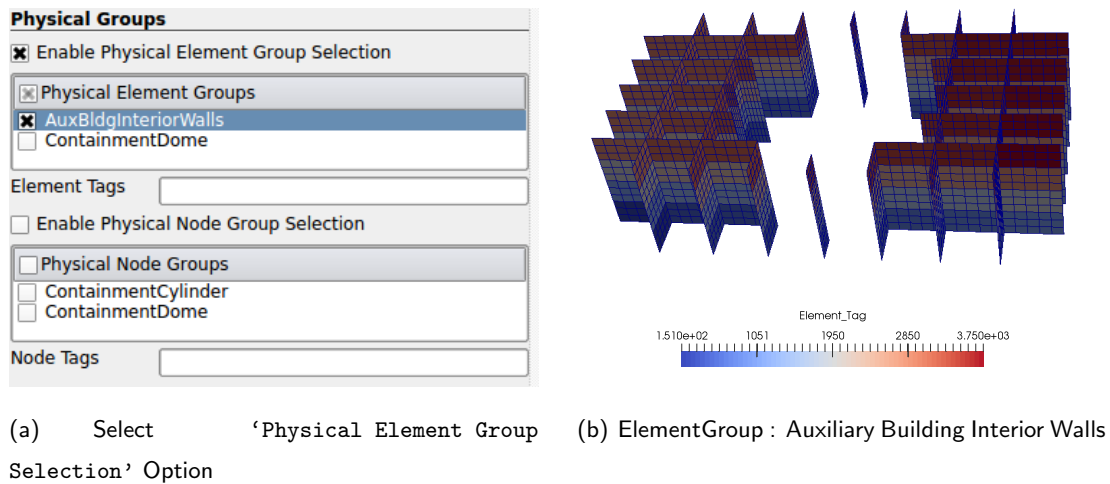

Figure 1.27: Visualization of physical groups predefined in input file using Real-ESSI DSL.
2. **Physical Element Groups** - It shows all the physical element groups defined in Input file of Real-ESSI. The user can select (one or more) of physical groups and hit apply to visualize them. It would show any effect only if the above options **Enable Physical Element Group Selection** is checked. Figure 1.27 shows steps to visualize the physical element groups defined in input files using Real-ESSI DSL.